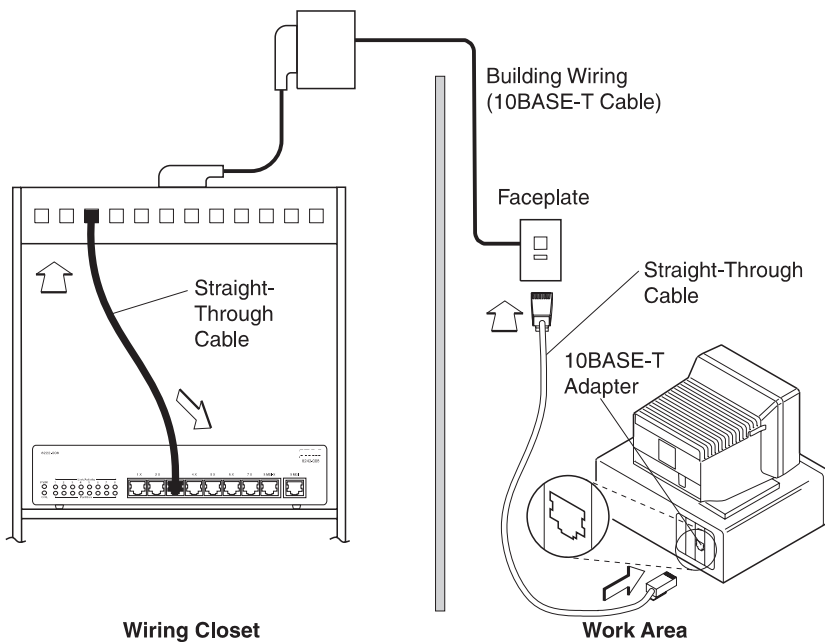

Figure 2-4. Using Straight-Through Cables and Building Wiring
- 2 Start connecting the cables in the work area. Connect one end of a straight-through cable to the 10BASE-T connector on the adapter (sometimes called a NIC) in the device and the other end to the 10BASE-T connector on the faceplate where the building wiring cable terminates. See Figure 2-4 on page 2-8 for an illustration of this connection.